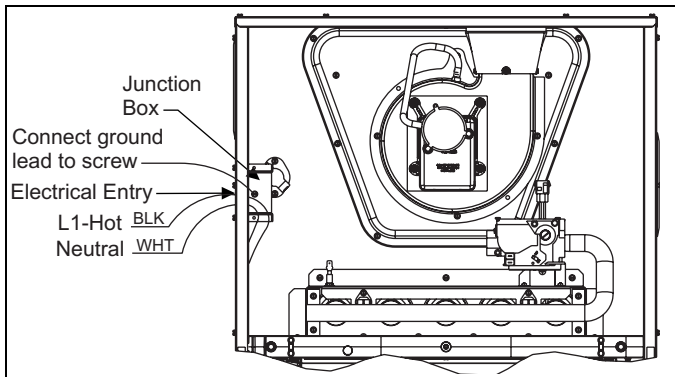

FIGURE 16: Electrical Wiring
2. Remove the screws retaining the wiring box cover. Route the power wiring through the opening in the unit into the junction box with a conduit connector or other proper connection. In the junction box there will be 3 wires, a Black Wire, a White Wire. Connect the power supply as shown on the unit-wiring label on the inside of the blower compartment door or the wiring schematic in this section. The black furnace lead must be connected to the L1 (hot) wire from the power supply. The white furnace screw must be connected to neutral. Connect the power supply ground to the green screw (equipment ground) An alternate wiring method is to use a field provided 2" (5.1 cm) x 4" (10.2 cm) box and cover on the outside of the furnace. Route the furnace leads into the box using a protective bushing where the wires pass through the furnace panel. After making the wiring connections replace the wiring box cover and screws. Refer to Figure 16.
3. The furnace's control system requires correct polarity of the power supply and a proper ground connection. Refer to Figure 16